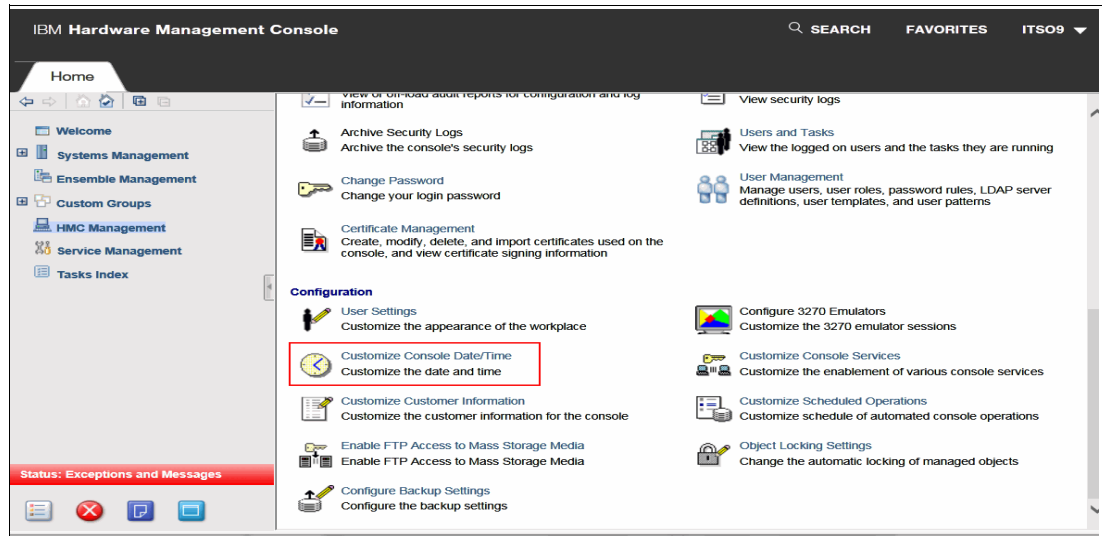

Figure 8-3 Customize Console Date and Time selection
1. Open **Customize Console Date and Time** on the HMC. This task is available in the HMC Management section (see Figure 8-3).